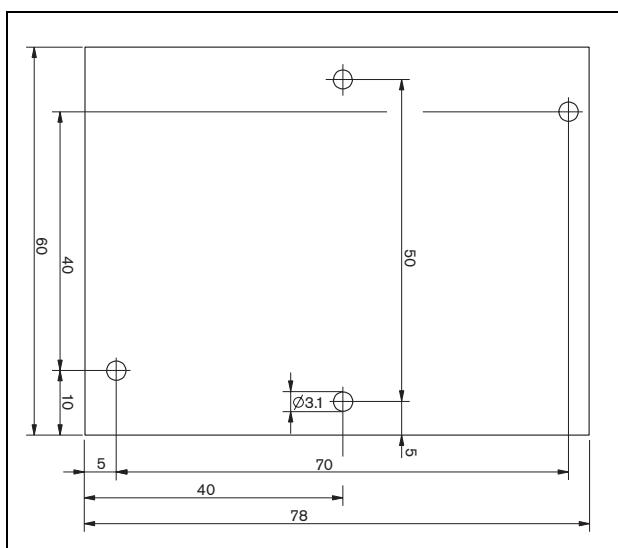

figure 13.5: Dimensions
To install the board in, for example, a box, use the universal brackets (LBB4446/00). Connect the board to a bracket using the middle holes (see figure 13.5).
- 2 Use the corner holes in the board (see figure 13.5) to install it in a loudspeaker. The coils on the PCB must be kept at a distance of 30 mm or more from the loudspeaker magnet and a distance of 50 mm or more from the loudspeaker transformer, otherwise the magnetic fields can disturb the correct operation of the board.